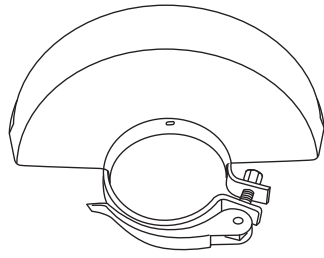

Fig. 4, grinding guard (13)
2. Use the opened grinding guard (13) for grinding applications (Fig. 4).